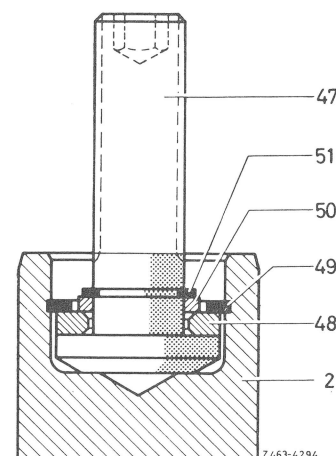

Fig. 29
30 Insert adjusting screw (47), including thrust washer (48) and locking ring (49) into pitman shaft (2), making sure of perfect seating of locking ring (Fig. 29 and 31).
31 Position thrust ring (50) on adjusting screw (47) and insert locking ring (51) (Fig. 29 to 31).